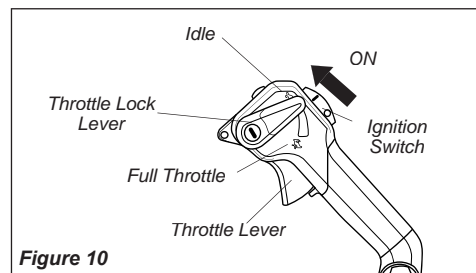

Figure 10
4. Move the throttle lever to half throttle. Slide the ignition switch to the "I" (ON) position, then depress the throttle lever half way and lock throttle by moving throttle lock lever halfway down. See Figure 10.